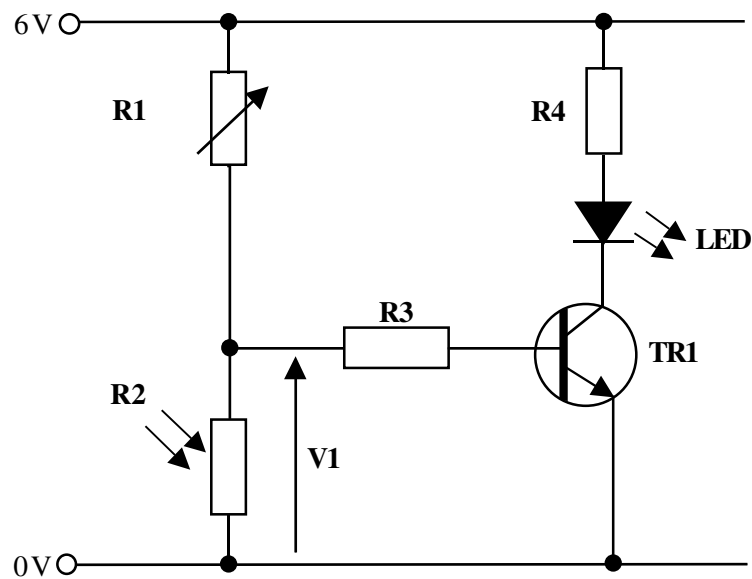

Fig. 1(c)
- (i) State the name of the component **R1** in the circuit shown in **Fig. 1(c)** and briefly explain its purpose in the circuit. [2]
- (iii) Calculate the required resistance of **R1** in **Fig. 1(c)** to enable the voltage **V1** to equal a value of 4.2 Volts if the resistance of **R2** is 20 k Ω . [3]